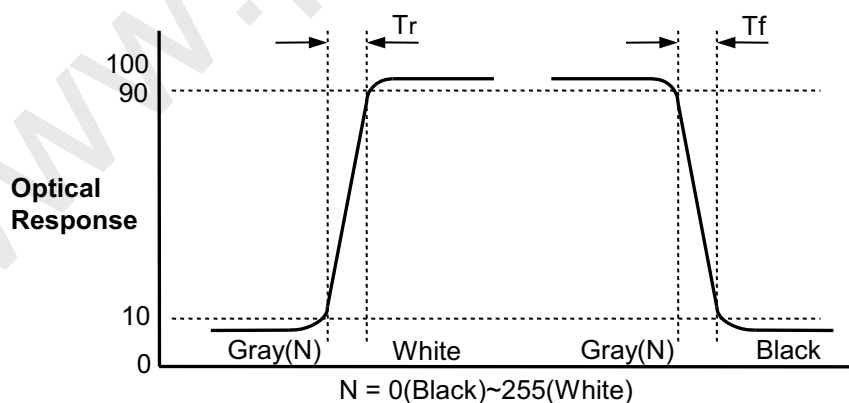

FIG. 3 Response Time
- Response time is the time required for the display to transit from any gray to white (Rise Time, Tr_R) and from any gray to black (Decay time, Tr_D). For additional information see the FIG. 3.